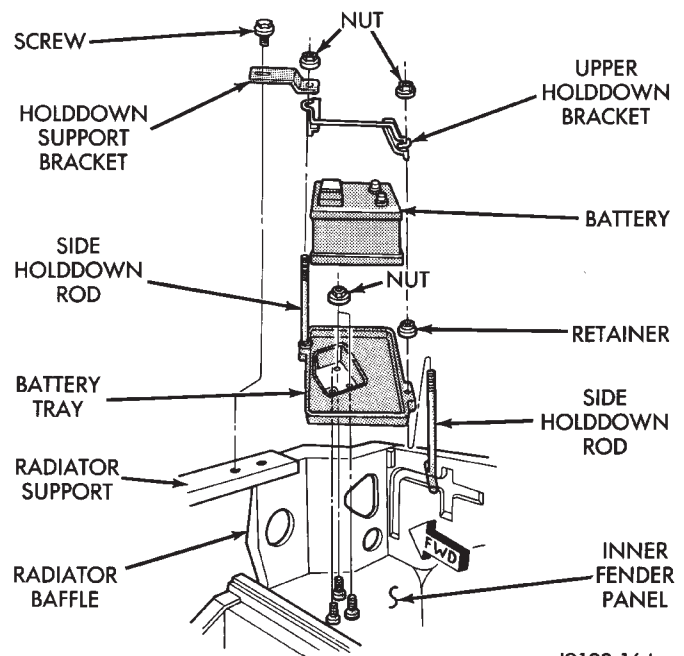
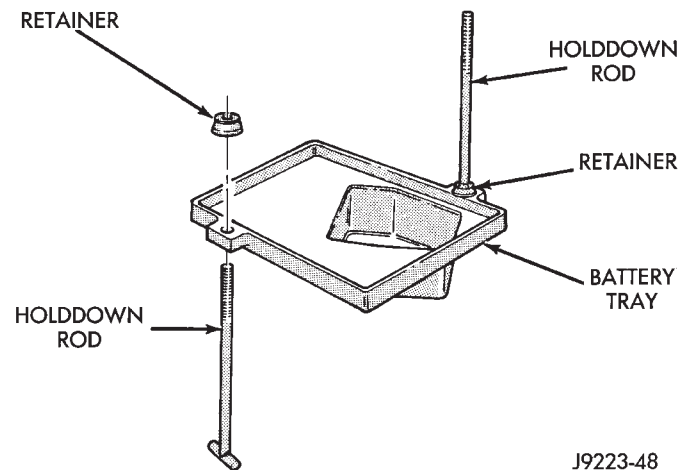

Fig. 32 Battery Tray Removal/Installation
Fig. 33 Battery Holddown Rods & Retainers
(1) Remove the screw, nuts, holddown support bracket and upper holddown bracket from the holddown rods (Fig. 32).
(2) Remove the battery from tray.
(3) Remove the nuts that attach battery tray to the inner fender panel.
(4) Remove the battery tray from the vehicle.
(5) If necessary, remove the retainers and holddown rods from the battery tray (Fig. 33).